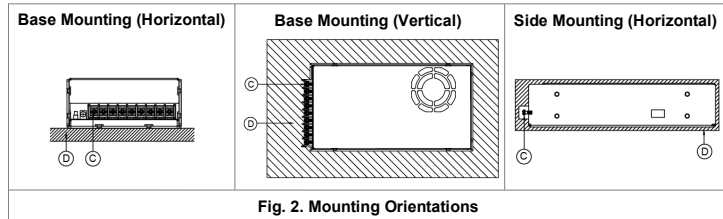
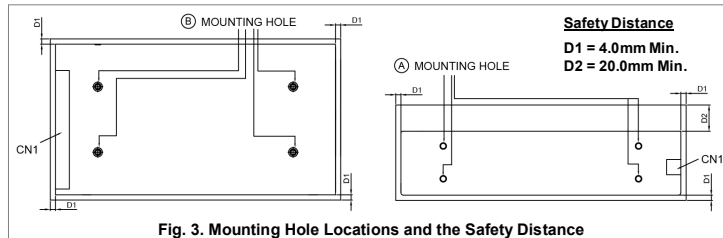
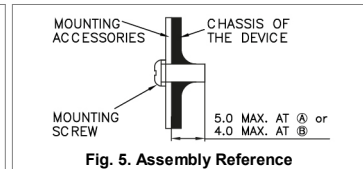

Fig. 2. Mounting Orientations
Fig. 3. Mounting Hole Locations and the Safety Distance
Fig. 5. Assembly Reference
- For safety reasons, please ensure the mounted device is kept at $\geq 4\text{mm}$ safety distance at all sides from other components and equipments. In addition, to ensure sufficient convection cooling, always maintain a distance of $\geq 20\text{mm}$ from fan ventilated surfaces while the device is in operation. Please insert an insulation sheet between the system and product, if the safety distance is $< 4\text{mm}$ (Refer to Fig. 3).
- ① Input & Output terminal block connector
- ② DC voltage adjustment potentiometer
- ③ DC OK control LED (Green)
- ④ AC selectable switch
- Ⓐ Side Mounting: Fig. 2 and Fig. 3 show the mounting hole locations for power supply assembly onto a metal mounting surface. The power supply shall be mounted on minimum of 4 mounting holes using M4 screw of maximum 5mm length (Refer to Fig. 5). This is to maintain a safety distance between the screw and internal components.
- Ⓑ Base Mounting: Fig. 2 and Fig. 3 show the mounting hole locations for power supply assembly onto a metal mounting surface. The power supply shall be mounted on minimum of 4 mounting holes using M4 screw of maximum 4mm length (Refer to Fig. 5). This is to maintain a safety distance between the screw and internal components.
- Ⓒ Fig. 2: Connector
- Ⓓ Fig. 2: This surface belongs to customer's end system or panel where the device is mounted.